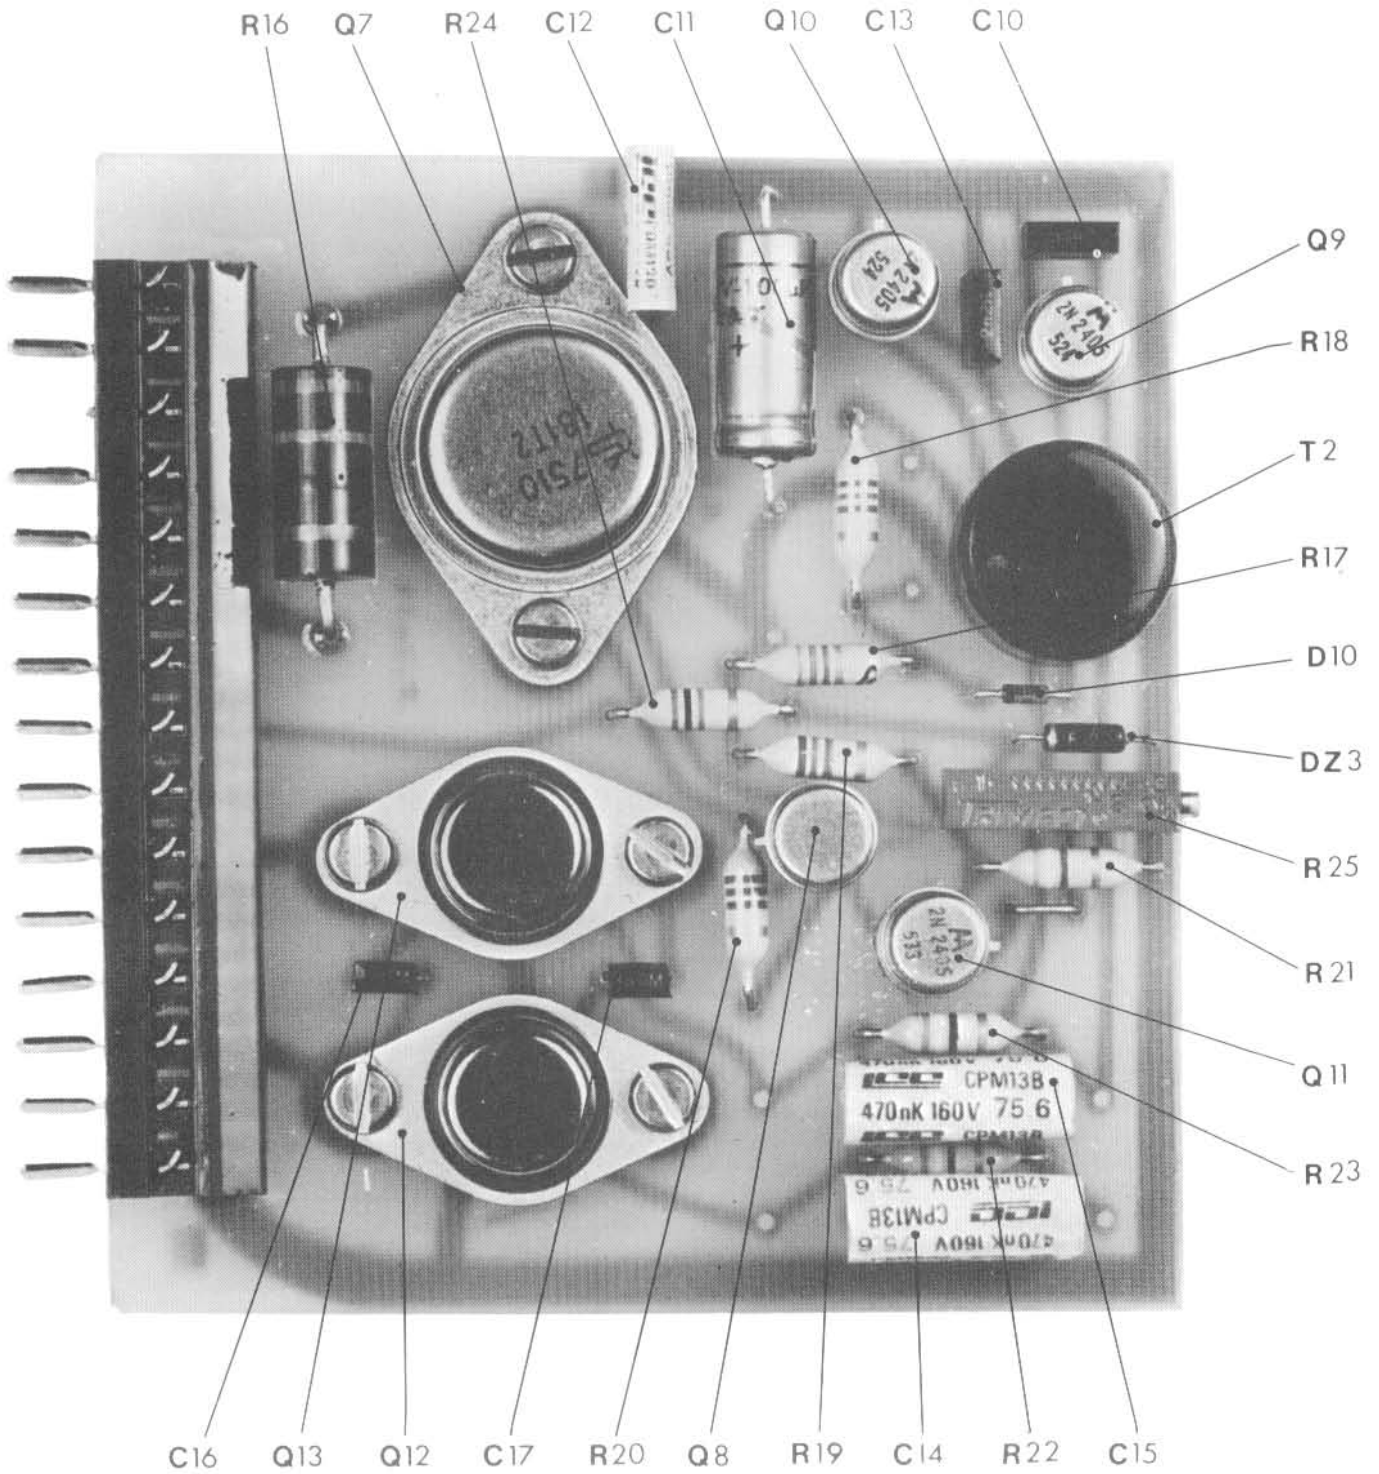

Figure 11 - Square-wave generator printed-circuit board.
- 3) Turn the TWTA off and remove the 25-kHz square-wave generator board. Turn the TWTA back on. If the HV lamp lights, check transistors Q12 and Q13 (see Figure 11).